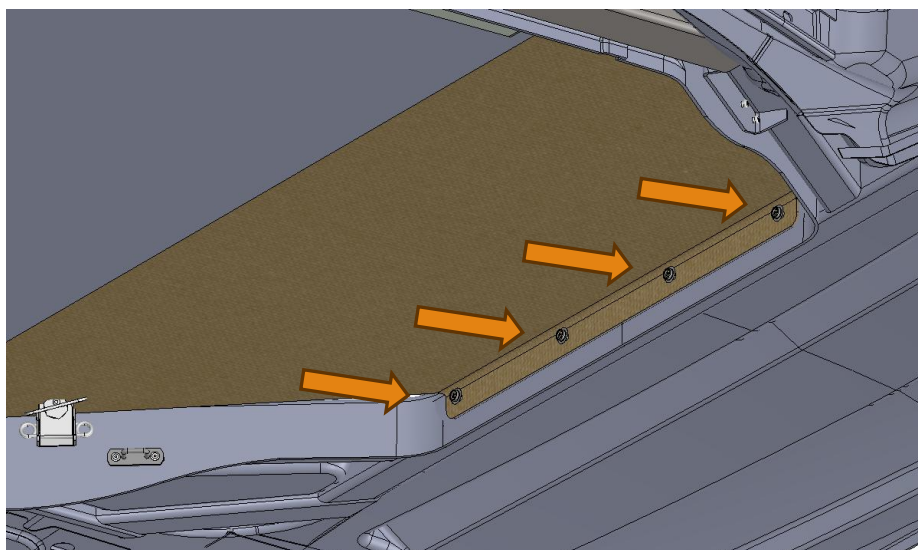

Fig. 7
- Fasten the roof cover. ( Fig. 7)